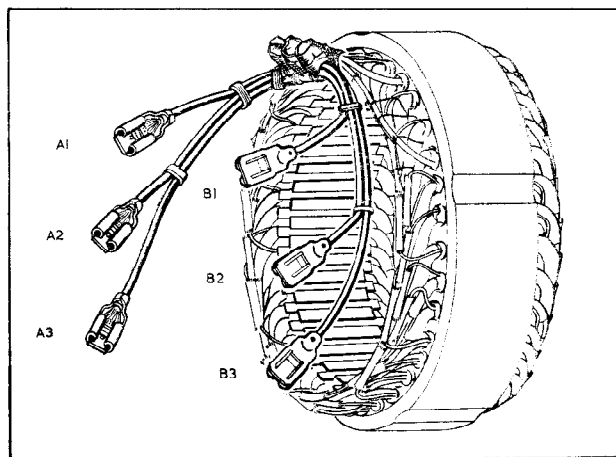

Fig. 6 Nomenclature for testing stator
- (i) Measure the volt drop between terminals A_1A_2 , A_1A_3 , A_2A_3 , B_1B_2 , B_1B_3 and B_2B_3 (Fig. 6) when passing 20 amps. between the terminals. The volt drop should be 3.4 volts ± 0.1 in each of the six measurements. If any, or all, of the readings are other than within the range quoted, the stator must be replaced.